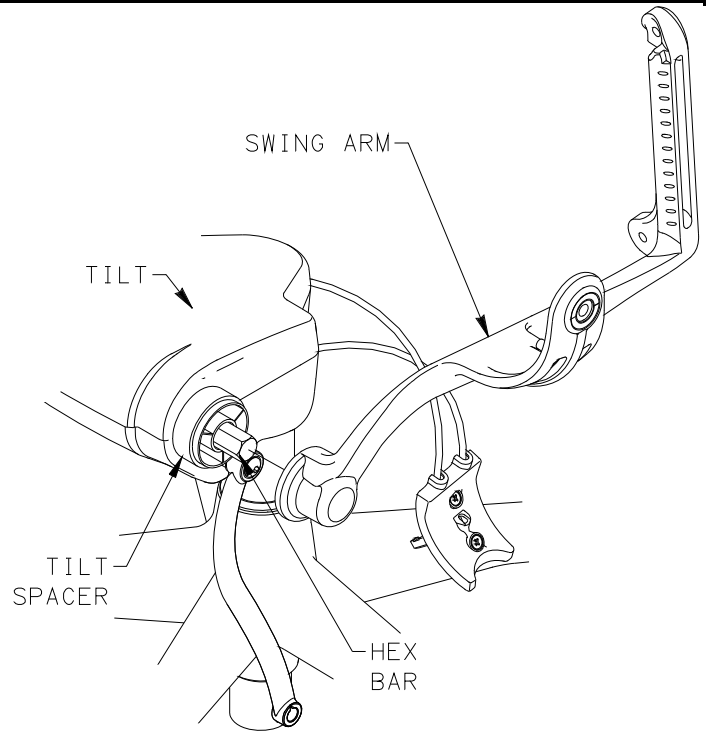

FIGURE 12
-CHAIRS MANUFACTURED AFTER 9-16-96: SLIDE SWING ARM FROM TILT AND DISPOSE OF PROPERLY. SEE FIGURE 12.
8. SLIDE REPLACEMENT SWING ARM ONTO HEX BAR, UP TO TILT SPACER, KEEPING SAME ORIENTATION TO HEX BAR AS OPPOSITE SWING ARM. SEE FIGURE 12.